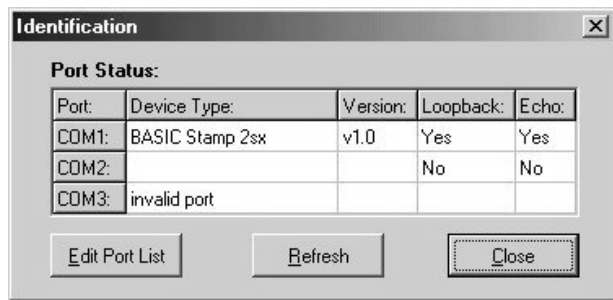

Figure 3 : Identification window shows correct connection about i-Stamp with software. User can work already now.
3.6 Appear "Identification" window to inform about BASIC Stamp and serial port status following the Figure 3. If i-Stamp work, it shows "BASIC Stamp2SX V1.X" (X is any number) message in Device Type box of Identification window.